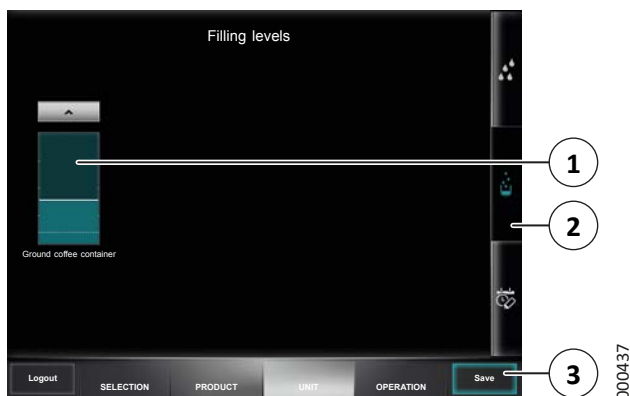

Fig. 30: Filling level
4. The “Limit value” button (1) is used to set a percentage at which a warning is issued for the filling level.
5. Press the “Apply” button (3) to adopt the settings and return to the previous screen.
6. Save your changes using the “Save” button (3) (see Fig. 30).